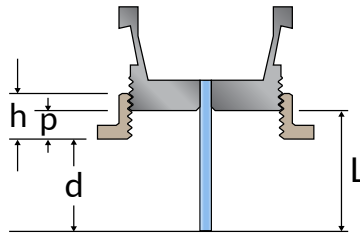

Figure 1.4: Protrusion Adjustment Ring Parameters.
1. Measure the protrusion length ( $L$ ) (Fig. 1.4) of the lens from the bottom of the metal part of the cannula to the extremity of the lens.
2. Determine at which penetration depth you want to position the extremity of the lens in the subject's brain. Add to this measure the thickness of the skull and the working distance of the GRIN rod lens (80  $\mu\text{m}$ ). To ensure that the Protrusion Adjustment Ring will not be too low, it is recommended to add 100  $\mu\text{m}$  to this measure. You will obtain the protrusion distance ( $d$ ) (Fig. 1.4) representing the distance from the tip of the lens to the bottom of the Protrusion Adjustment Ring. ( $d = \text{penetration depth} + \text{skull thickness} + \text{working distance}(80 \mu\text{m}) + 100 \mu\text{m}$ ).
3. The protrusion of the ring ( $p$ ) (Fig. 1.4) is given by :  $p = L - d$  and can be related to the Protrusion Adjustment Ring with closest matching protrusion length (Table 1.3). Each ring is identified by its height ( $h$ ) (Fig. 1.4).